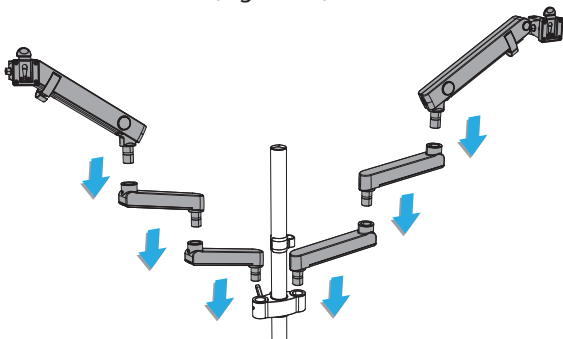

Figure 10
1. Insert the **Bottom Swivel Arms** (x 2) onto the **Shoulder Pole Mount**. Insert the **Middle Swivel Arms** (x 2) onto the **Bottom Swivel Arms**. Insert the **Spring Arms** (x 2) onto the **Middle Swivel Arms**. (Figure 10)